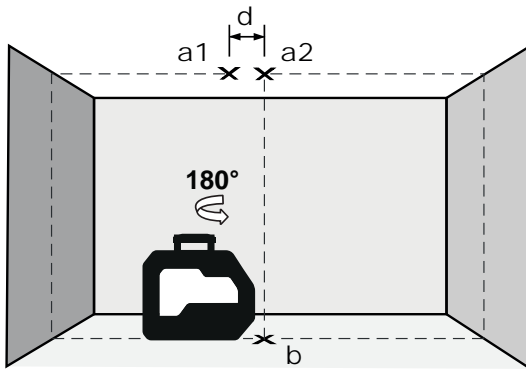

Figure 10
6. Mark the center of the upper plumb dot on the ceiling as point **a2**. (see figure 10)